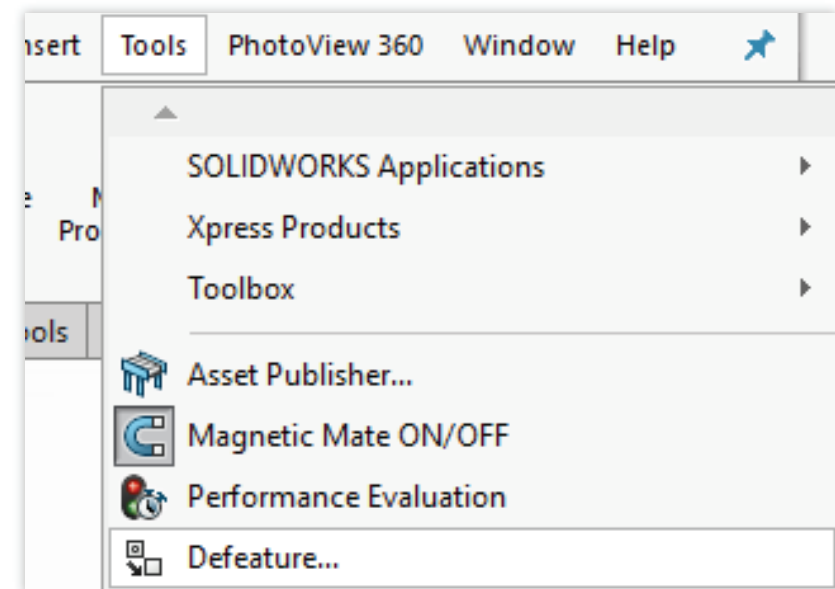

Fig. 21
1. To access the tool, go to **Tools > Defeature**. See Fig. 21.